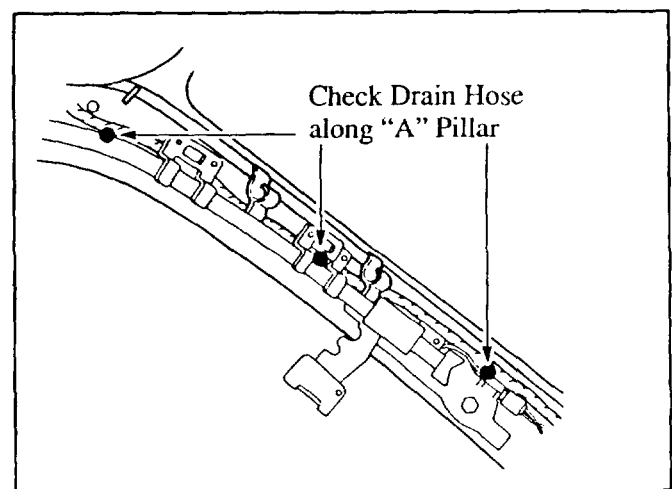

Figure 6: Checking Front Drain Hose
5. If the leak is still present, remove cap and screw from the front windshield header. Remove the "A" pillar side molding. Check the drain hose for kinks. Figure 6.